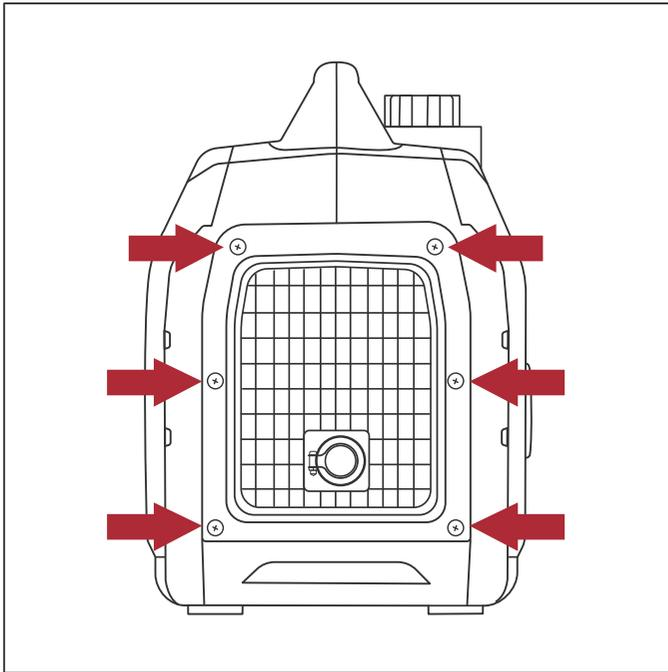

Fig.31
- 3 Remove the screws holding the muffler cover in place (see **Fig.31**).